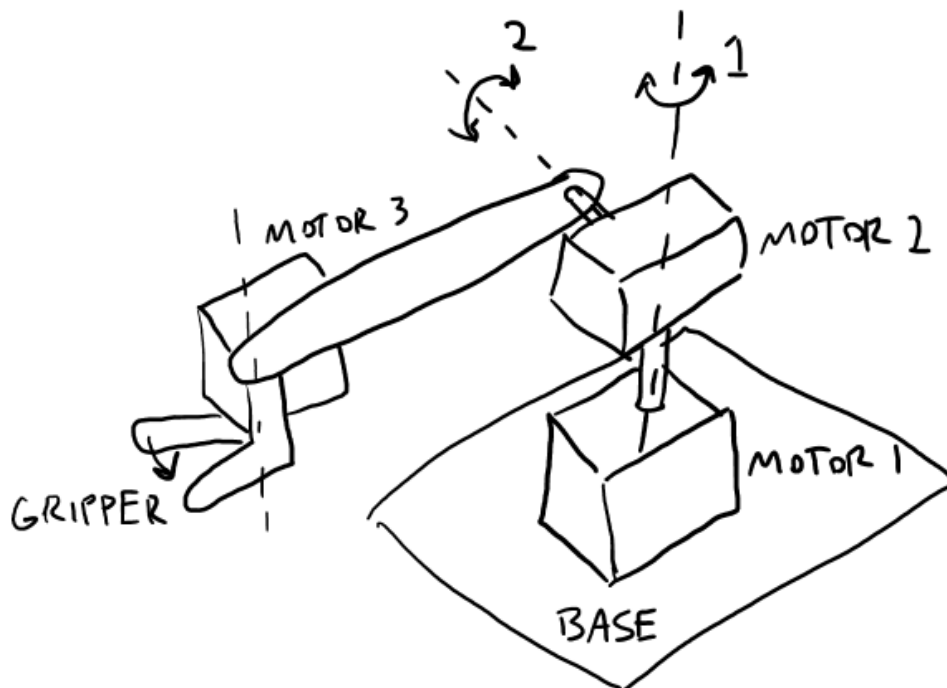

Figure 6. A hand-drawn sketch of the robotic arm design. Each motor's axis of rotation is shown with a dashed line.
2. Draw a sketch of your arm. You do not necessarily have to stick with this design. You might need to change it later, and that is OK. The engineering design process is **iterative**, meaning you might go through multiple designs before you arrive at your final product. Figure 6 shows an example sketch of the arm in this project. You should also think about what materials you will use to build the arm. The example arm in this procedure uses popsicle sticks and double-sided foam tape. This works for a simple arm, but is not very sturdy and cannot lift heavy objects. You will need sturdier materials and connection methods if you want to build a more heavy-duty arm.
5. This [example code](http://www.sciencebuddies.org/cdn/Files/19582/5/servo_control_with_buttons.ino) (http://www.sciencebuddies.org/cdn/Files/19582/5/servo_control_with_buttons.ino) will control the servos with the buttons if you build the circuit shown in Figure 7. You can also see a [Tinkercad simulation of the circuit](https://www.tinkercad.com/things/0IObHqklYdi) (<https://www.tinkercad.com/things/0IObHqklYdi>) here. You may wish to add more features to your code, like limiting the range of certain motors (which defaults to 0–180°). For example, the gripper in Figure 6 does not need to rotate a full 180°. If you use other inputs (like potentiometers or joysticks) or additional motors, you will need to modify the code accordingly. See our [How to Use an Arduino](http://www.sciencebuddies.org/science-fair-projects/references/how-to-use-an-arduino) (<http://www.sciencebuddies.org/science-fair-projects/references/how-to-use-an-arduino>) for tutorials about potentiometers and joysticks.